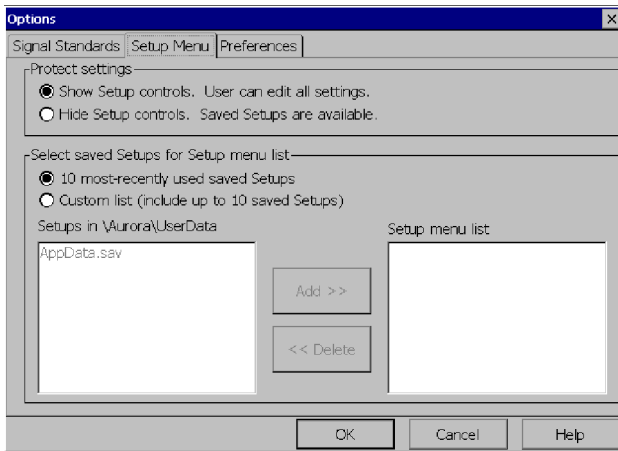

Figure 3-76: Specifying the List of Setups
3. Select the **Setup Menu** tab. See Figure 3-76.